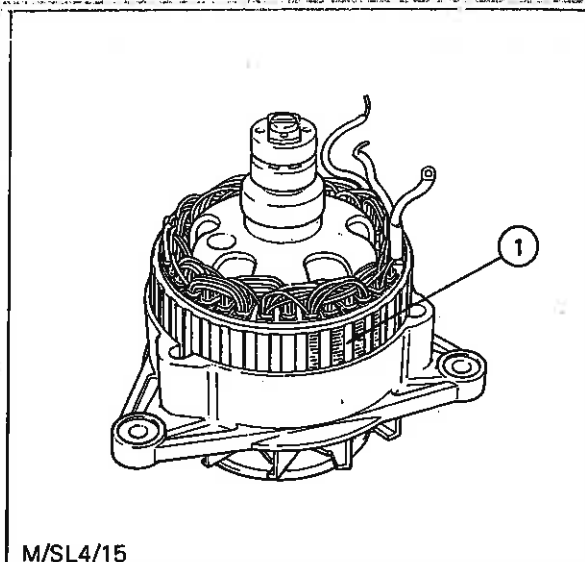

Fig. 22 - Removing Stator
3. Lift off the stator assembly (1) - see Fig. 22.